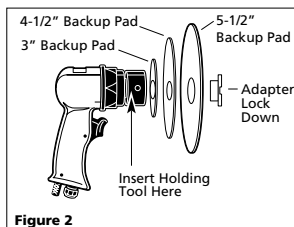

Figure 2
3" or 6" resin discs with non-adhesive backs are recommended. The discs should have 7/8" diameter cutout centers for proper attachment. For best support When using discs larger than 3", use all the backup pads of equal size or smaller than the resin disc itself (See Fig. 2). To install the resin disc, follow the outlined procedures.
1. Assemble the backup pads as shown in Figure 2. Make sure the recessed center of the pads face the sander.
3. Hand tighten the adapter lockdown, then insert the holding tool into the hole shown in Figure 2. Insert a large screwdriver into the slotted hole on the adapter lock down and securely tighten.